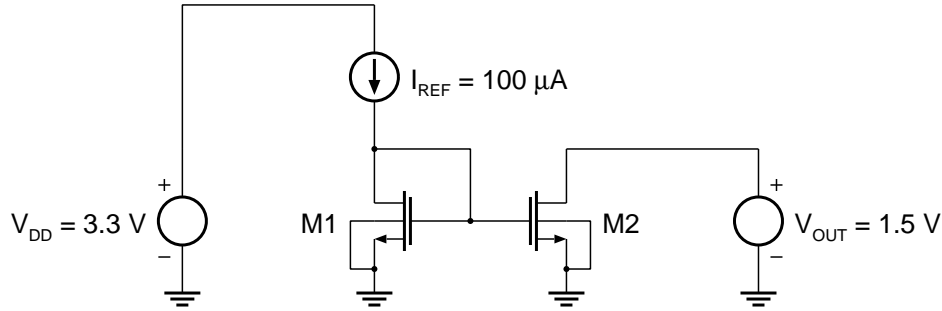
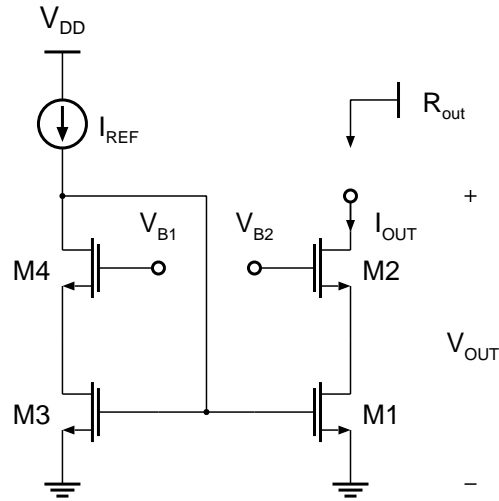

Figure 4: Simulation circuit for the current mirror.
Figure 5: High swing cascode current mirror. (The bulk terminals of all NFETs are connected to the ground potential.)
Two main characteristic parameters of a current mirror are its minimum output voltage $V_{\text{OUT},\min} = V_{\text{dsat}2}$ and its output resistance R_{out} . Determine these two values for the basic current mirror shown in Figure 4.
3. Draw a schematic according to Figure 4. For the transistors use the cell `nmos4` from the library `PRIMLIB` and for the current source use the cell `idc` from the library `analogLib`. Do not forget to place a `gnd` component! Make both transistors $1.75 \mu\text{m}$ wide (the values in the fields `Width` and `Width Stripe` should match) and $0.35 \mu\text{m}$ long ($W/L = 5$). Hint: to mirror the transistor on the vertical axis press the button `Sideways` in the `Add Instance` dialog.
Eq. (2) shows that the drain-source voltages of M1 and M2 should be made equal for I_{OUT} to be a precise copy of I_{REF} . However, V_{ds2} in Figure 4 is defined by the driven circuit. The idea is now to use a cascode in the output branch, i.e. to stack another transistor on top of M2 in order to shield the drain of M2 from variations of the output voltage. The resulting structure is known as a cascode current mirror. However, it can be shown that this cascode current mirror loses one threshold voltage in voltage headroom for V_{out} (see P. Gray et al., 5th Ed., Ch.4, Par.4.2.5, pp.261, for the derivation). Therefore, in practical circuits the high swing cascode current mirror of Figure 5 is used, since this structure does not exhibit the mentioned disadvantage of the normal cascode current mirror.
1. The cascode current mirror was suggested because of its increased output resistance. Draw the small signal equivalent circuit of the output branch of Figure 5 and derive the formula for the output resistance. Do you expect a significant increase in the output resistance based on your formula?
3. Eq. (2) shows that V_{ds1} and V_{ds3} should be equal when channel length modulation is considered. Why does it make sense to set $V_{B1} = V_{B2}$? Set $V_{ds1} = V_{ds3}$ and derive the relationship between $\frac{W_1/L_1}{W_3/L_3}$ and $\frac{W_2/L_2}{W_4/L_4}$ for $V_{B1} = V_{B2}$ and a general ratio of $\frac{I_{OUT}}{I_{REF}}$. Use the MOSFET formulas given in the appendix (i.e., do not include the factor $(1 + \lambda V_{ds})$ for the drain current I_d).
6. You are now in a position to plug your design of the cascode current mirror into the simulator. Create a new cell in the Schematic Composer and draw the circuit schematic of Figure 5. After you have specified all transistor dimensions and voltage sources according to your design, start Analog Environment and perform a DC analysis. When the simulation has finished, annotate the DC node voltages and the DC operating points in the schematic by clicking `Results.Annotate.DC Node Voltages` and `Results.Annotate.DC Operating Points` in the Analog Environment window. The subset of parameters displayed for the components may be changed. Let us add `gds` for the transistors: Choose `Edit.Component Display` in the schematic window, tick the option `Select Label: parameter` and make sure the following options are active below: `library`, `operating point`, and `DC`. Afterwards click on a `nmos4` in the